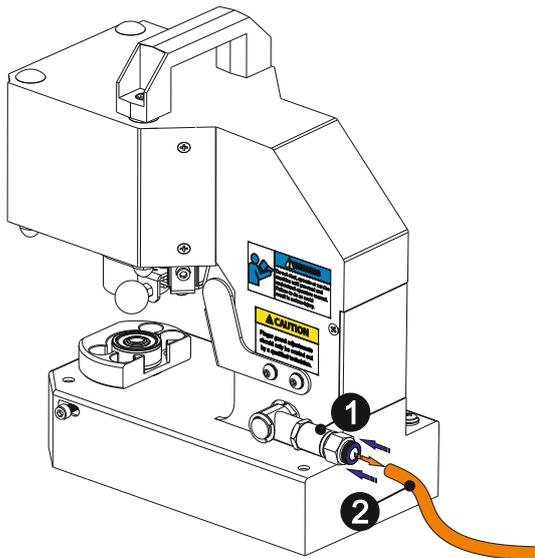

fig. 43
Shut down your air source and unplug the air hose from the machine. In order to unplug the air hose from the machine, push the blue part on the air entrance ❶ to the machine direction and while doing that pull the air hose ❷ at arrow direction as shown in above (fig. 43).